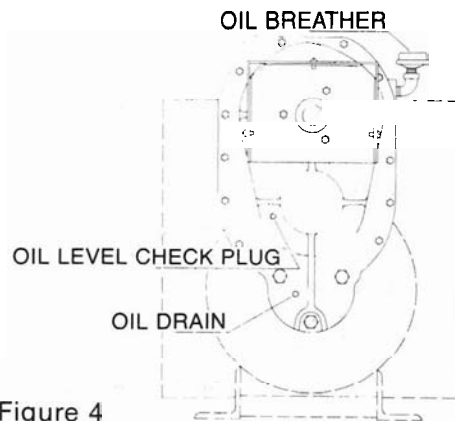

Figure 4
2. Check gear case oil level. See Figure 4. Case should be filled with oil to plug marked "OIL LEVEL." Fill or remove oil as required.